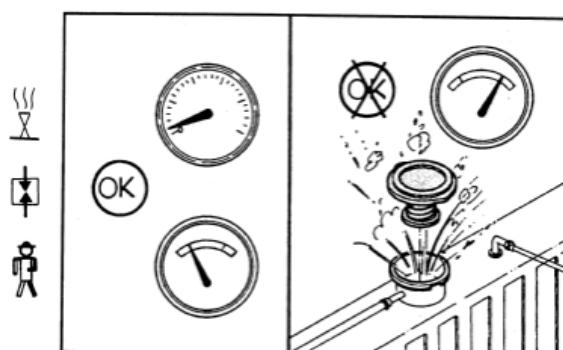

Figure 2-2: Air release button
- Observe the coolant level through the glass observation hole, if the coolant is not enough, you can open the lid to pour more. Figure 2-1 and Figure 2-2 illustrate the safety signs of the lid of cooling water filling hole and auxiliary water tank.